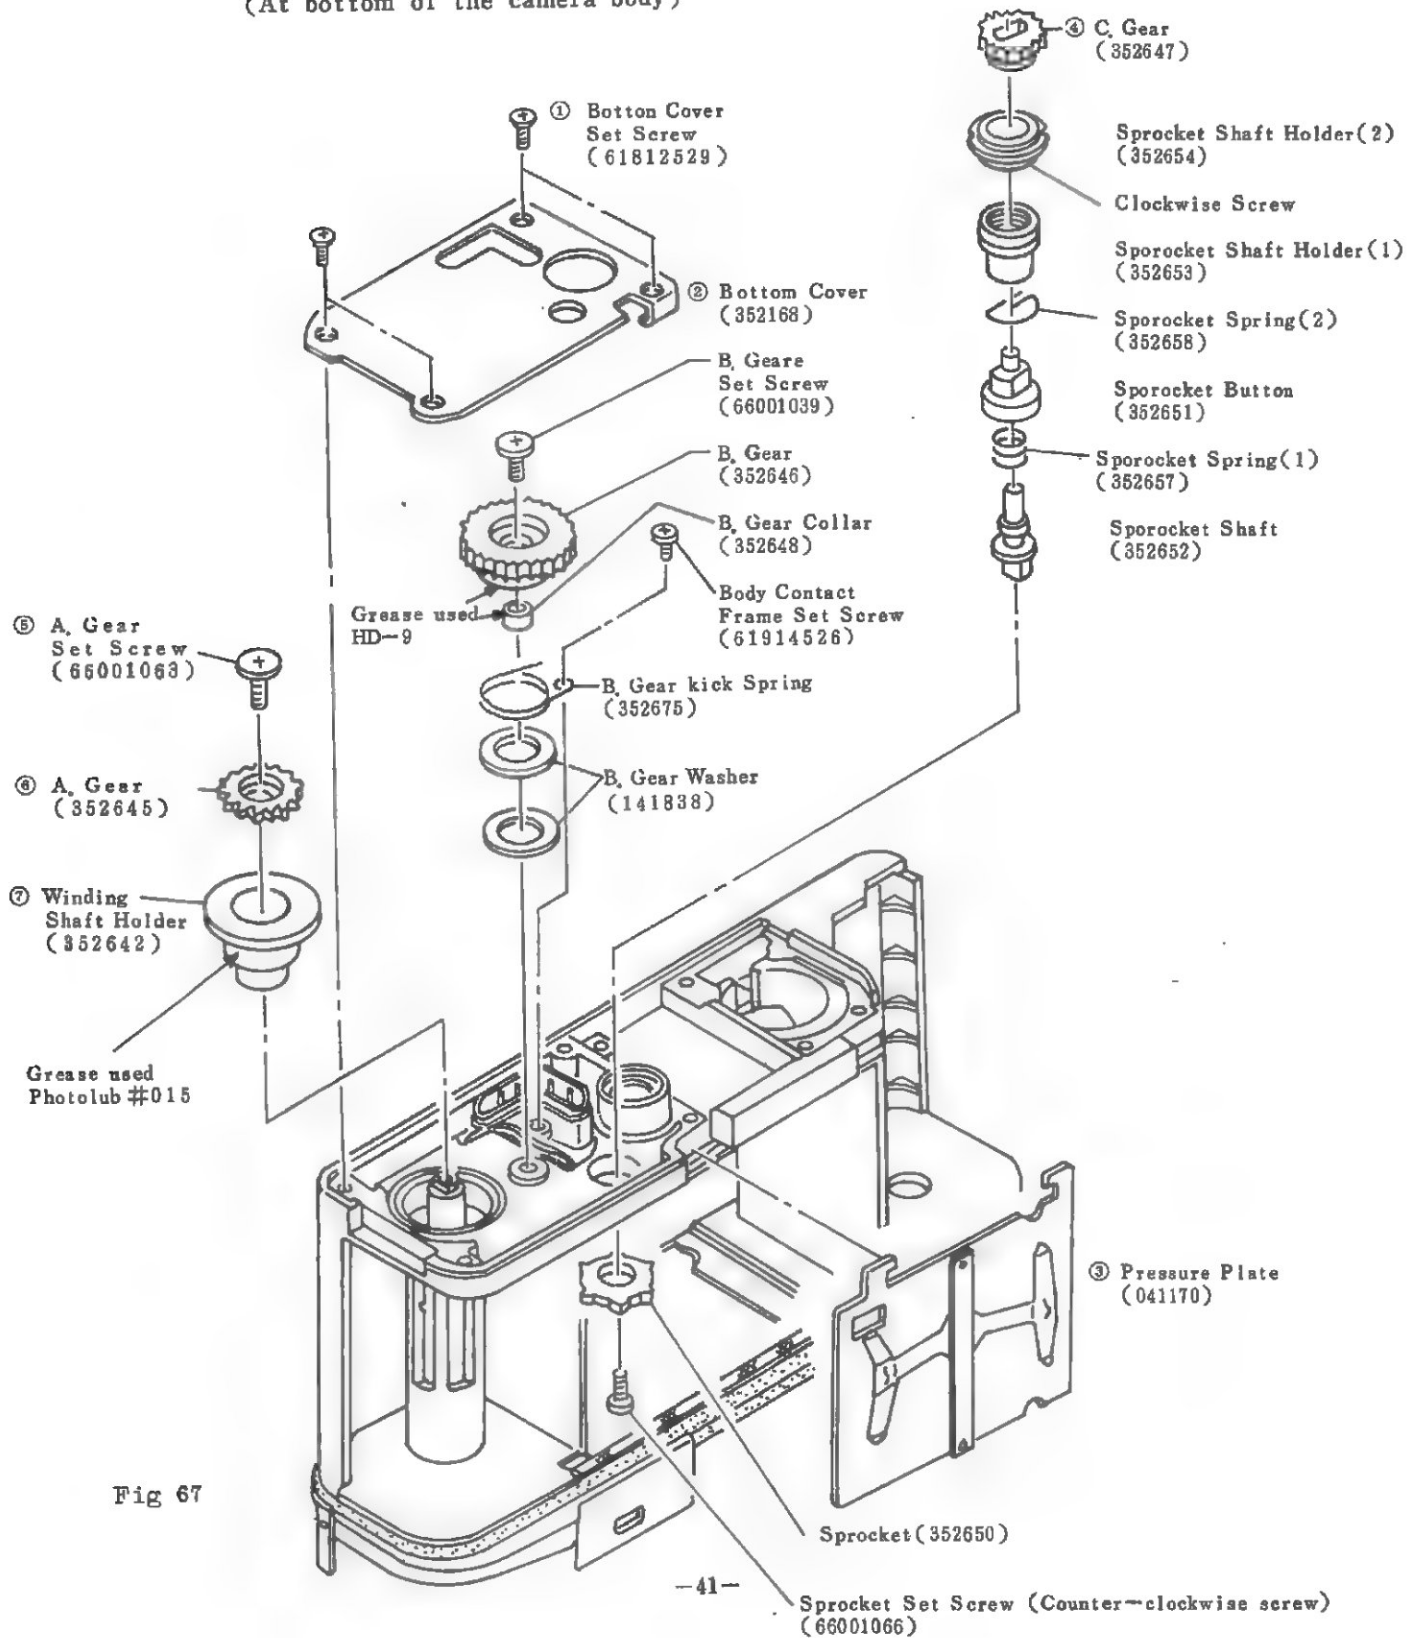

Fig 67
(1) Disassembling of Winding Shaft.
a) Remove the respective parts ①~⑦ Shown in (Fig 67) in numerical order.